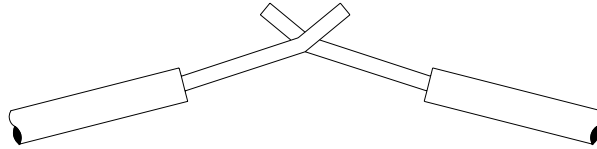

Fig. 1
- For a small gauge wires, (up to 1mm^2), and when a mechanical attachment is required, secure the 2 wire ends, by twisting them together. Align carefully the strands in order to avoid any poke through of the sleeve. See Fig. 1 and Fig. 2.